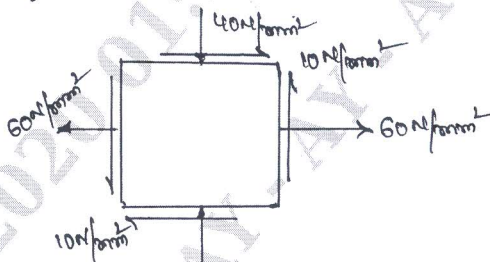

Fig Q4
- 4 The state of stress at a point in a strained material is shown in Fig Q4. Determine :